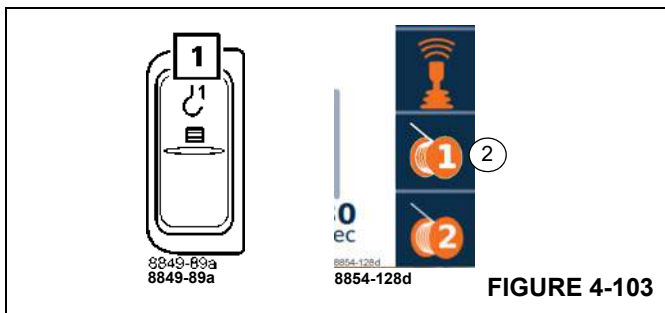

FIGURE 4-103
- Press the button (1), (Figure 4-103) once.
- Symbol (2), (Figure 4-103) is red when the main hoist is switched OFF.